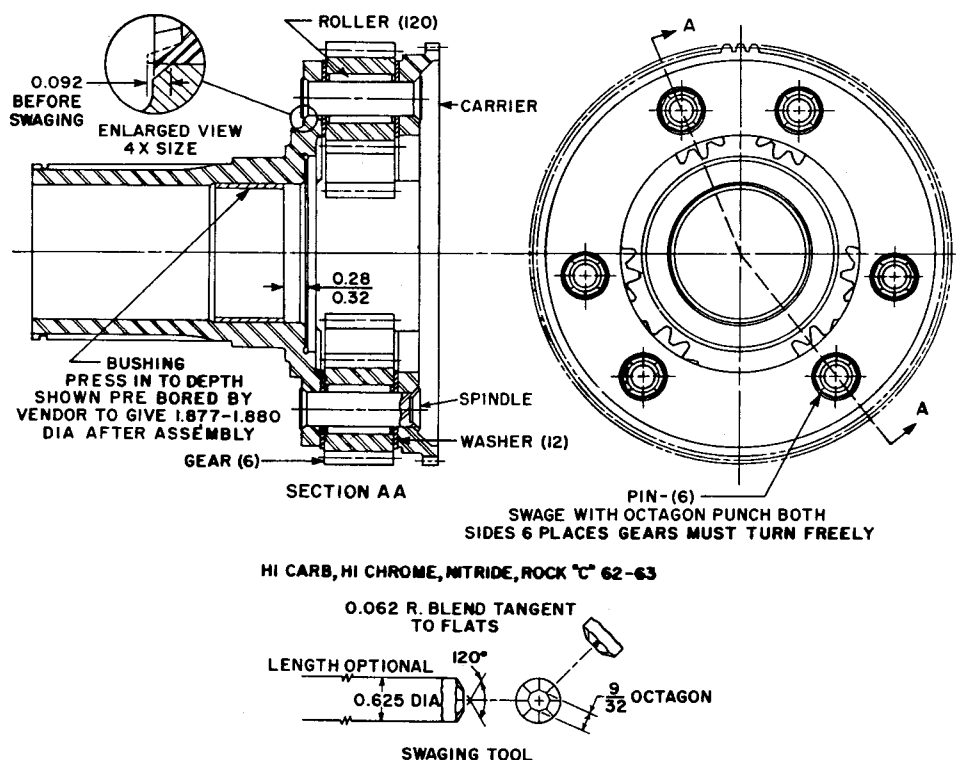

Fig. 6-19. Forward planetary carrier assembly—cross section
a. Disassembly (B, foldout 9, and fig. 6-19)
(1) Position the carrier assembly 5 (B, foldout 9), hub upward, on a drill press table.
(2) Using a 1/2-inch twist drill, centered accurately, drill the end of each pinion pin 11 to weaken the staking.
c. Assembly (B, foldout 9, and fig. 6-19)
(1) If bushing 7 (B, foldout 9) was removed, press a new bushing into the carrier to the 0.28 to 0.32 dimension shown in fig. 6-19.
(2) Make a pinion alining tool by grinding or turning a chamfer on one end of a 6-inch length of 1/2-inch, cold-rolled steel.
(3) Coat the bore of each pinion 9 (B, foldout 9) with oil-soluble grease.
(4) Holding the alining tool in one hand, install a thrust washer 10 and then a pinion 9 onto the alining tool.
(9) Repeat procedures (4) through (8), above, for the remaining pinion groups. Aline the pinion groups in the carrier by inserting the alining tool in each spindle bore.
(10) Press new spindles through the carrier and pinions until they project 0.092 inch from the inner ends of the countersinks in the pinion bores at the rear of the carrier (see inset detail of fig. 6-19).
(11) Stake both ends of the spindles into the countersinks of the carrier. Refer to fig. 6-19 for details of fabricating the staking punch.
(12) Install seals 14 and 16 (and expanders 21 and 22 on later models) onto forward piston 15. Refer to paragraph 6-16c(12) through (14), above, for piston seal and expander installation.